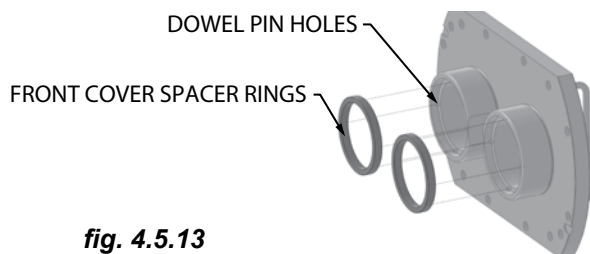

fig. 4.5.13
4.5.2.4.7 FoodFirst Front Cover Spacer Installation (reference fig. 4.5.13, 4.5.14, 4.5.15 and section 4.4.8)